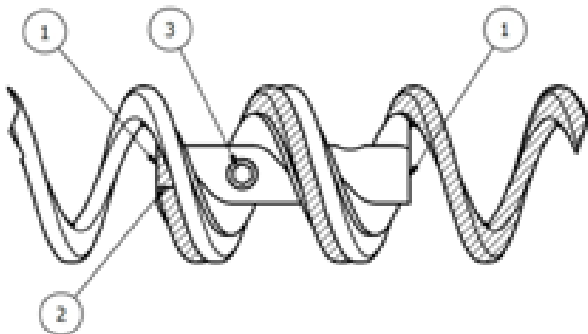

FIGURE 1
6. Properly assembled; the auger ends should be even with the ends of the Auger Connector. Auger Connector should be positioned so that it is in the center of the overlapped section of augers. (See Fig 1)